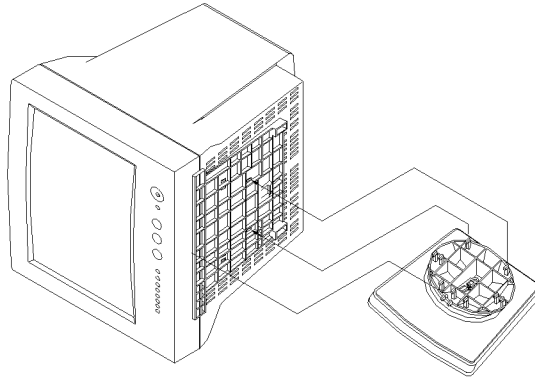

Figure 1 Installing and Removing the Swivel Base
- Carefully turn the monitor on its side or upside down. (see figure1 )